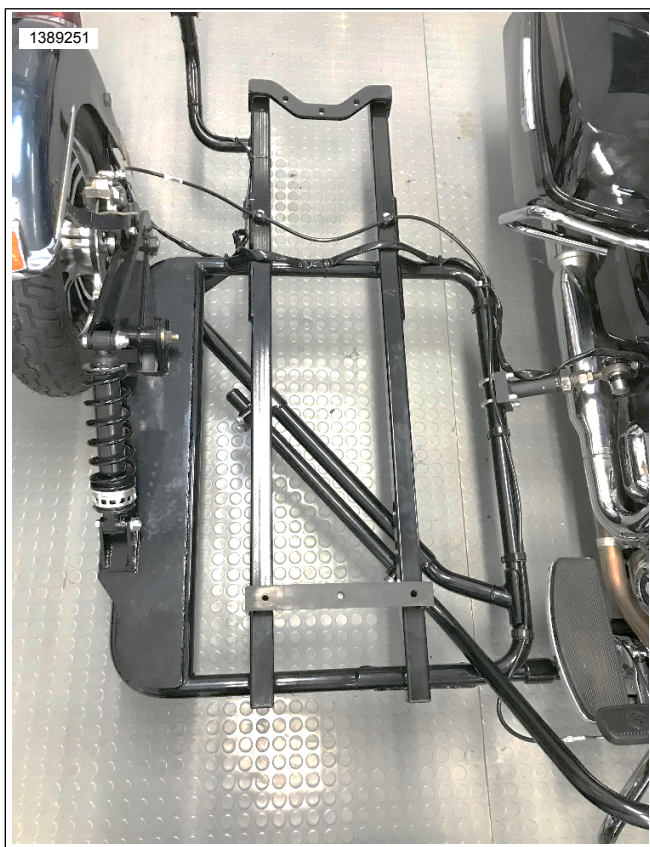

Figure 2-61. Harness Routing
8. See Figure 2-61. Position light harness so it will not be pinched by seat, suspension movement and wheel or tire, secure the harness and connectors with cable straps as needed.